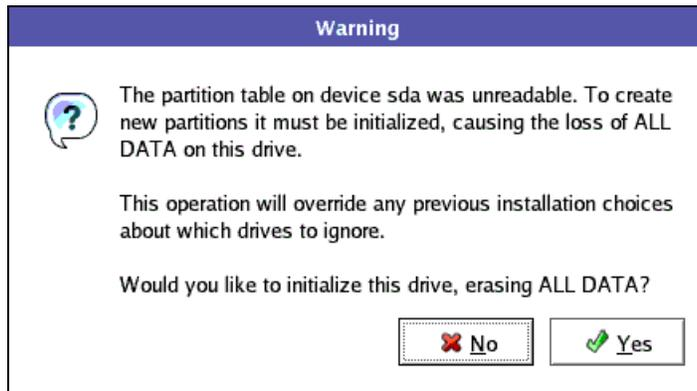

Figure 10-63 Disk initialization warning
- Click **Next**. The installer now searches all available disks to set up the partitions. Since we do not use internal disks and only one logical drive in the DS4700 is assigned to the host in our experiment, there is only one DS4700 logical drive detected as a disk by the installer. Since it is a newly created logical drive that has no partition table yet, we get a warning, as shown in Figure 10-63, to initialize the disk. Click **Yes** to continue initializing the disk.